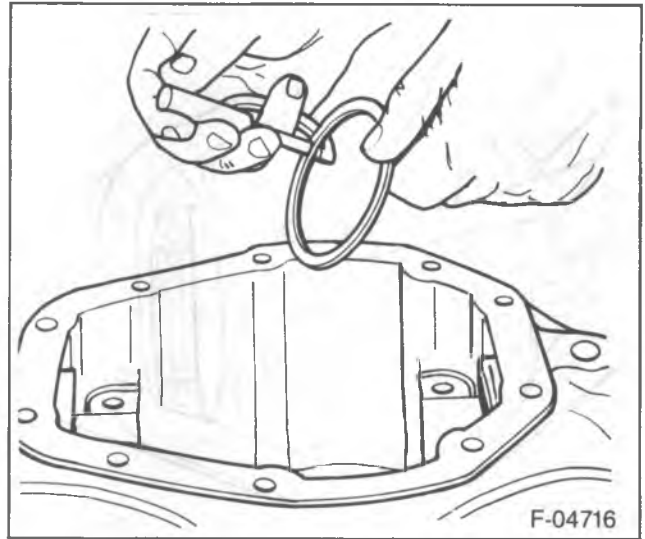

Figure 27—Measuring the Shims
- A pinion etched zero (0) will use the nominal setting as determined in this procedure.
9. Measure each shim separately with a micrometer and add them together to obtain the total shim pack thickness. If a baffle (5) or slinger is used, these must also be measured and included in the shim pack (figure 27).